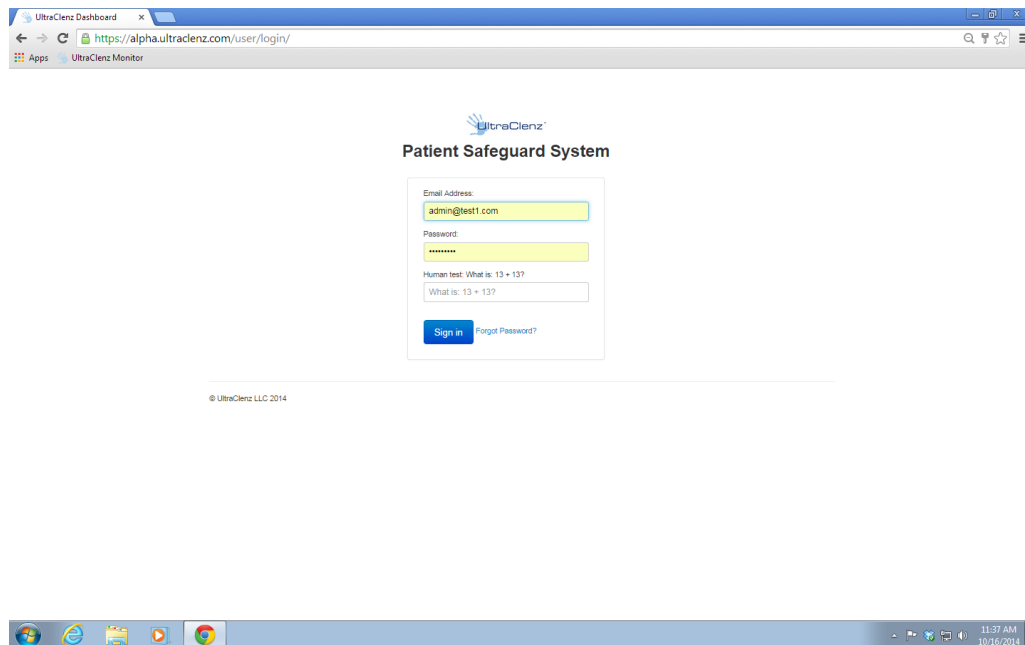

Figure 11. Dashboard Entry Screen
2. Go to Google (Internet) and type your facility's Dashboard URL and you should see *Figure 11*.